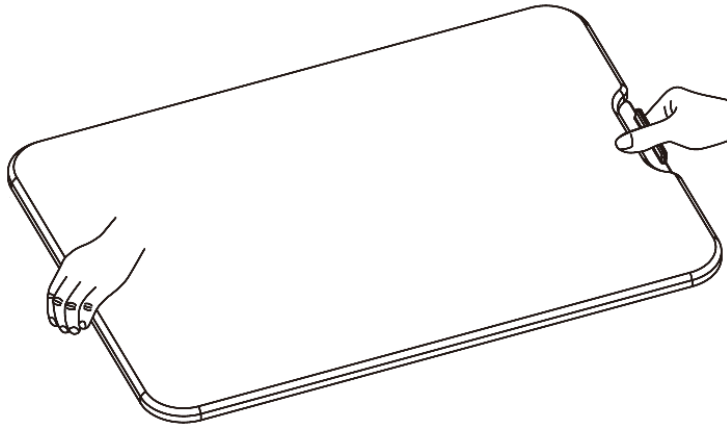

Figure 1
1. Position one hand on the **Slide Button** and the other hand on the opposite side of the **Workstation Surface**. (Figure 1)